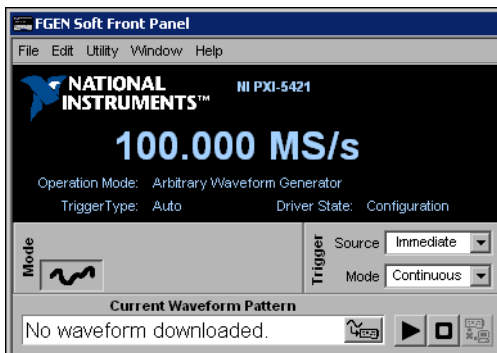

Figure 6. FGEN SFP Display with NI PXI-5421 Selected
- Verify that the device you installed appears on the FGEN SFP display, as shown in Figure 6.
- NI 5411/5431—Verify that the single arbitrary waveform output button located in the Mode section is selected, as shown in Figure 6.